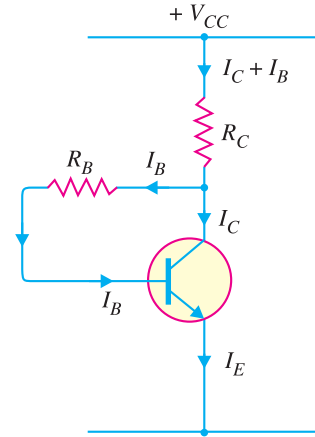

Fig. 9.19
In this method, one end of R_B is connected to the base and the other end to the collector as shown in Fig. 9.19. Here, the required zero signal base current is determined *not* by V_{CC} but by the collector-base voltage V_{CB} . It is clear that V_{CB} forward biases the base-emitter junction and hence base current I_B flows through R_B . This causes the zero signal collector current to flow in the circuit.
Circuit analysis. The required value of R_B needed to give the zero signal current I_C can be determined as follows. Referring to Fig. 9.19,
Note. It can be easily proved (See ***example 9.17*) that Q-point values (I_C and V_{CE}) for the circuit shown in Fig. 9.19 are given by ;
** Put $R_E = 0$ for the expression of I_C in exmaple 9.17. It is because in the present circuit (Fig. 9.19), there is no R_E .